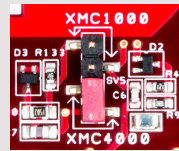

Figure 3
- › Connect the USB cable to your computer and to the control card. Debugger part of the control card is galvanically isolated from the power board. Place the jumper (Figure 3) into XMC1000 only if external slope is needed (i.e. peak current control with XMC1000 set up). Otherwise use XMC4000 position.